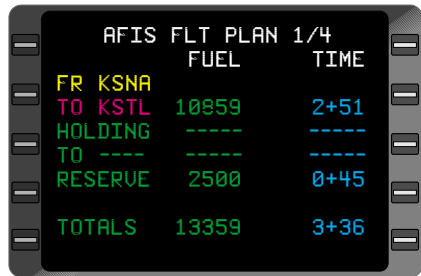
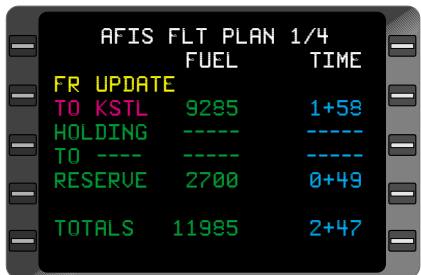

Figure 7-45
Figure 7-46
- REVIEW fuel and time data. (Figure 7-45) If the Flight Plan has been updated, the **FROM** identifier (origin airport) will be changed to **UPDATE**. (Figure 7-46)